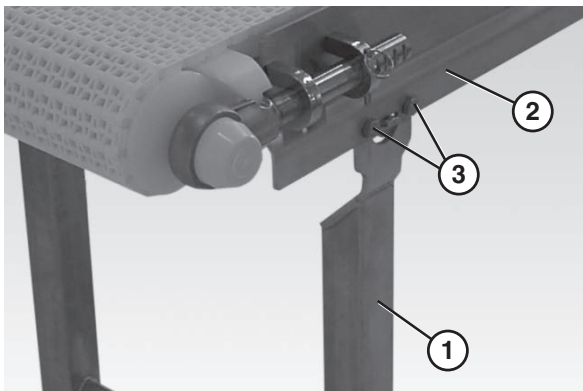

Figure 10
2. Attach the stand (Figure 10, item 1) to the conveyor (Figure 10, item 2) using four M10-1.5 x 12 mm hex head cap screws (Figure 10, item 3).
3. Tighten the stand screws (Figure 10, item 3) to 80 in•lb (9 N•m).